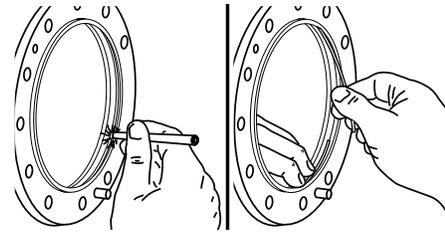

Figure 7
6. Apply solder flux to the solder groove within the flange and insert solder ring into the groove (Figure 7).